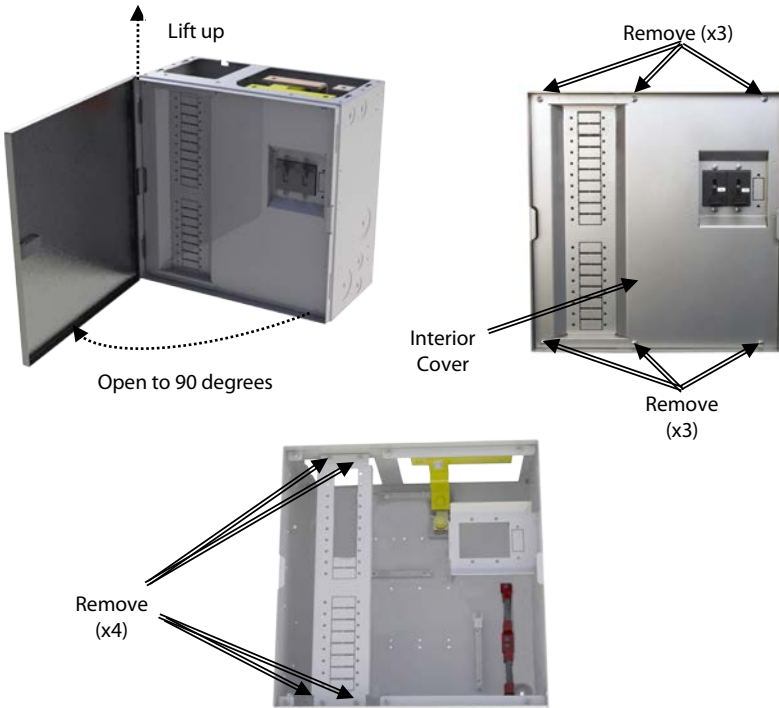

Figure 3 Removing the Covers and Main Bracket
1. Remove the front cover (sometimes called the “front door”) of the GSLC. Open the door to 90 degrees and lift up about 1/2” to disengage it from the GSLC (see Figure 3).
2. Remove the interior cover (sometimes called the “dead front”) of the GSLC. Remove the six screws installed across the top and bottom of the cover (see Figure 3) and take the interior cover off.
3. Remove the main circuit breaker bracket. Remove the four screws at the top and bottom of the bracket (see Figure 3) and take it off.
5. Re-install the main circuit breaker bracket using the four screws and any star washers that were previously removed. Use the illustrations in Figure 3 on page 4 for reference.
At this stage, the installation is complete. The interior cover must be re-installed using the six screws and star washers previously removed. The front cover can then be re-installed. Use the illustrations in Figure 3 on page 4 for reference.